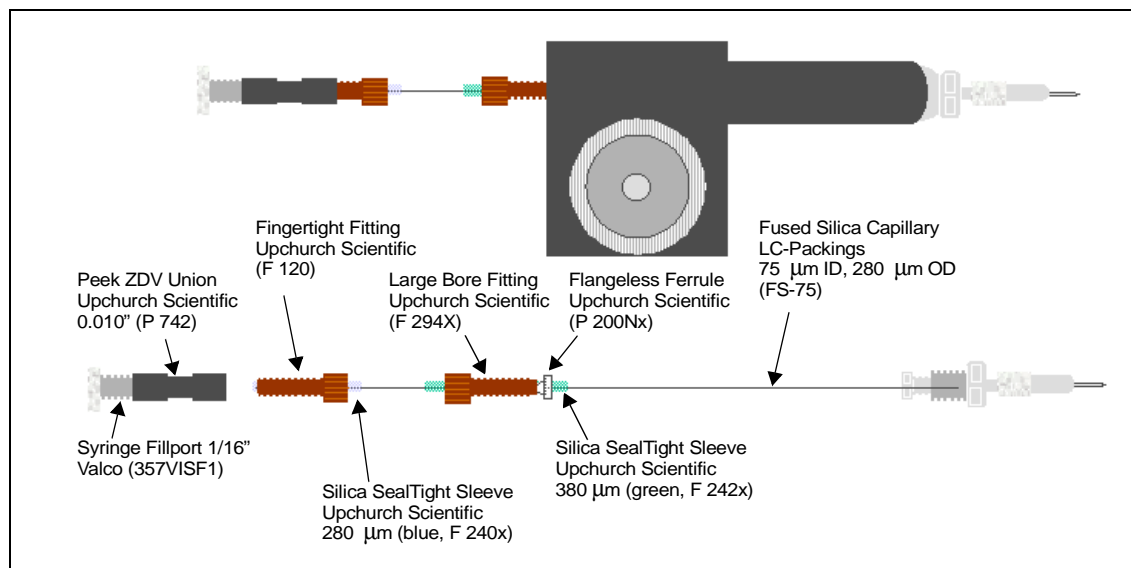
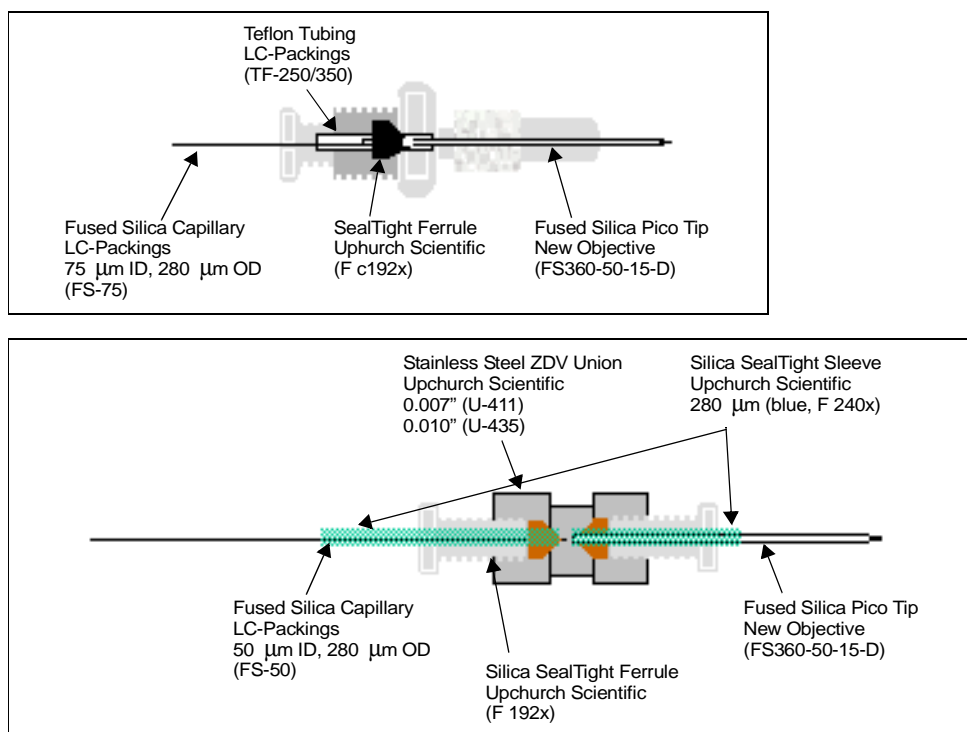

Figure 6-8 Installing the Needle for On-Line Nanospray
Figure 6-9 Typical Needle Configurations
1. Use a union to connect the Nanospray needle and the transfer line as shown in Figure 6-8 and either of the two needle configurations in Figure 6-9.